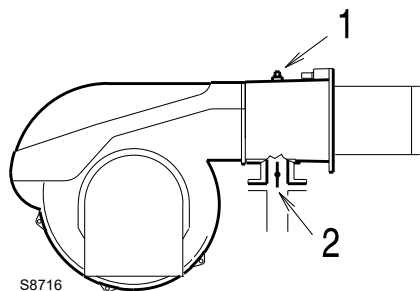

Fig. 26
Gas pressure measured at the test point 1)(Fig. 26), with:
Pressure loss at gas butterfly valve 2)(Fig. 26) with maximum opening: 90°.
- Subtract the combustion chamber pressure from the gas pressure measured at test point 1)(Fig. 26).
$$\begin{aligned} \text{Gas pressure at test point 1)(Fig. 26)} &= 17.0 \text{ mbar} \\ \text{Pressure in combustion chamber} &= 3.0 \text{ mbar} \\ 17.0 - 3.0 &= 14.0 \text{ mbar} \end{aligned}$$
To know the required gas pressure at test point 1)(Fig. 26), set the maximum output required from the burner operation, then:
- Read, on the right (column 1) the socket pressure 1)(Fig. 26).
pressure required at test point 1)(Fig. 26).
- Bleed the air from the piping of the gas train, connecting a plastic tube to the pressure test point 1)(Fig. 26) of the minimum gas pressure switch.